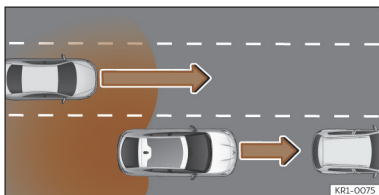

Fig. 135 Overtaking with traffic behind the vehicle.
- When being overtaken by another vehicle >>> **Fig. 135**.